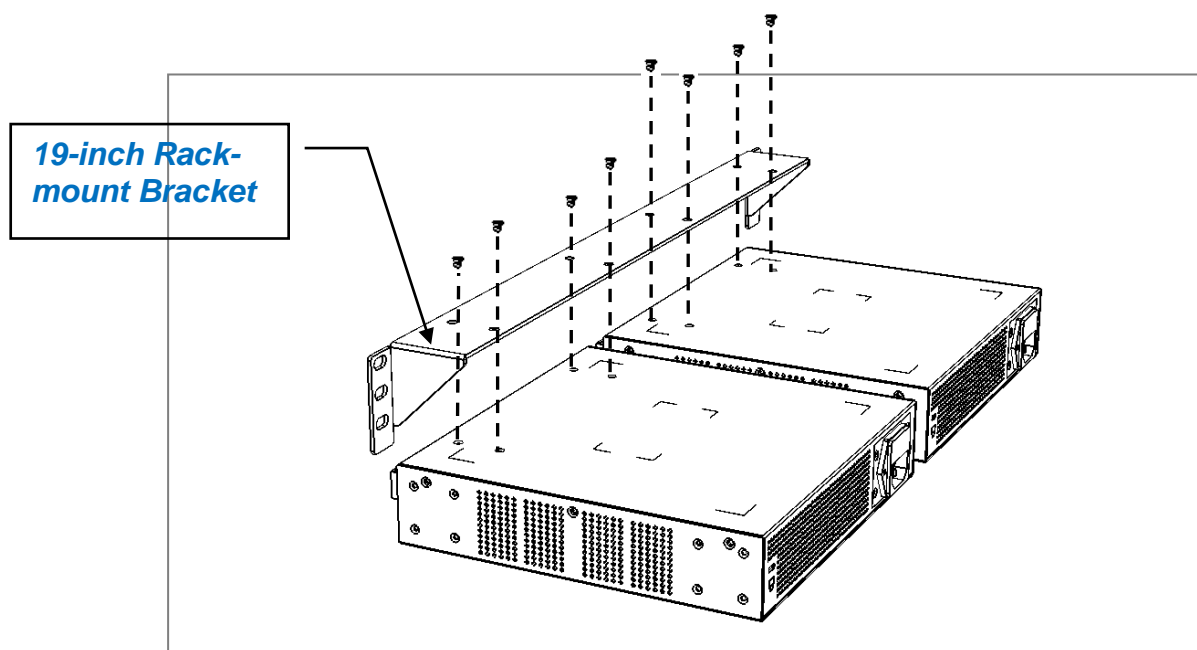

Figure 2-6. Install the 19-inch rack-mount bracket for two-switch mounting
- 1.2. Insert the screws provided in the 19-inch rack-mount bracket through this bracket and into the bracket mounting holes at the bottom of the switch. (See Figure 2-6)
- 2.2. Insert the screws provided in the 19-inch rack-mount bracket through this bracket and into these bracket mounting holes of the switch. (See Figure 2-6)